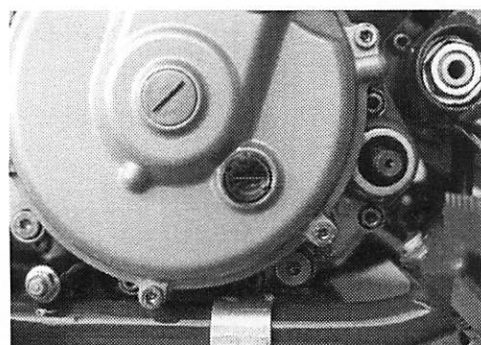

Figure 4.3
11. Oil should cover approximately $\frac{1}{2}$ of sight glass on clutch cover. (Figure 4.3)